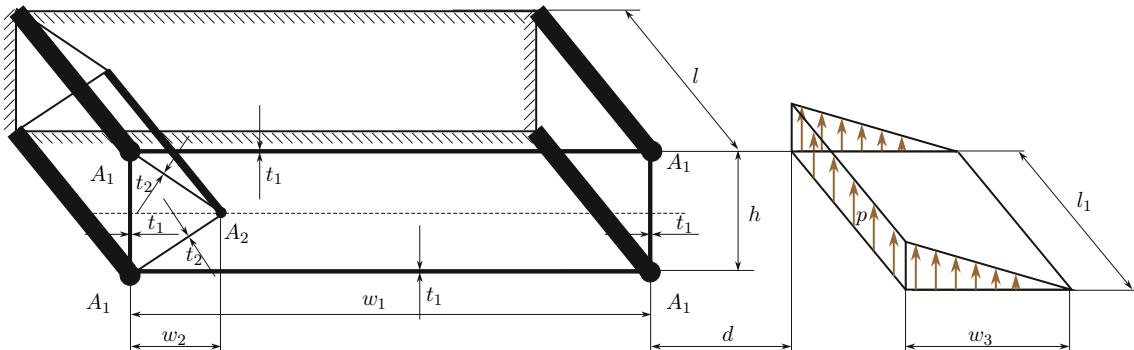

Figure 1: Loaded wing
1. The semi-momocoque wing of Figure 1 is loaded by triangular pressure distribution. Compute the rotation angle of the section located at distance  $l$  from the encastre (i.e. the location from which the pressure load starts. Refer to Table 1 for the problem data, and assume reasonable values for any missing constant.